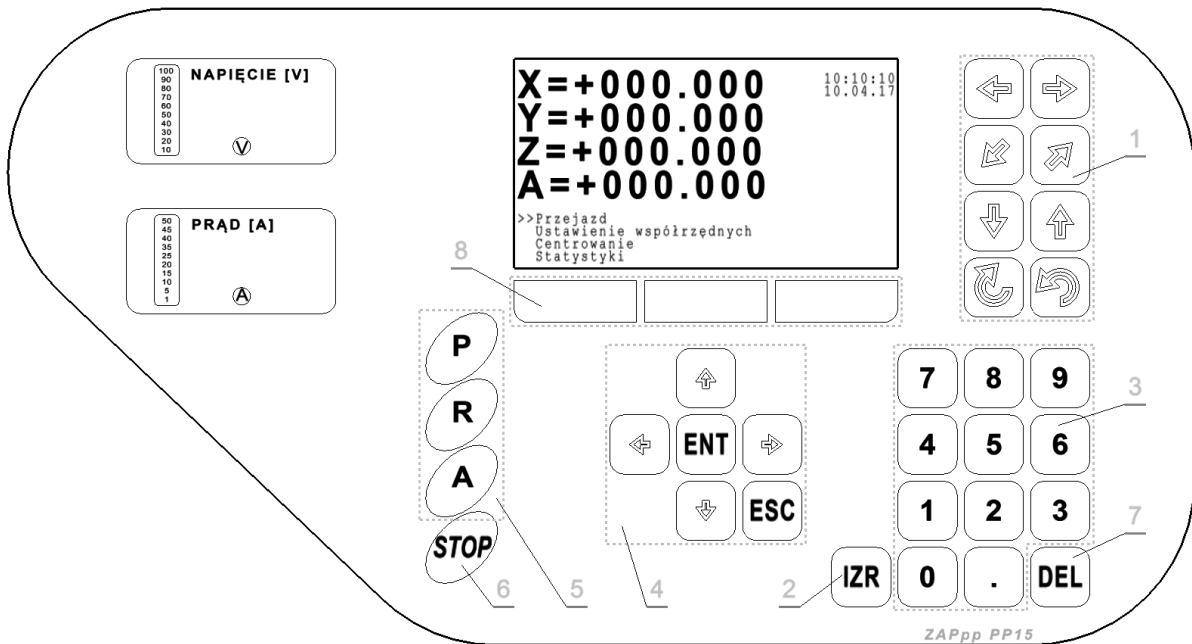

Fig. 1
Intended use: This function is responsible for travelling the working bit of the machine in a specific direction, and according to a specific turning movement, by pressing and holding one of the keys included in the directional keypad (see Fig. 1). This function will not be available, once the user has entered a window dedicated to a selected operation (e.g. travel by a specific value).
- 1) Select a specific direction and turn during travel, by pressing an appropriate key included in the directional keypad (see Fig. 1).
- 4) Declaration of movement for another axis – go back to item 1.
- 3) Select a specific direction and turn during travel, by pressing and releasing an appropriate key included in the directional keypad (see Fig. 1).
- 1) Select a specific character and the axis for which we intend to declare target coordinates, by pressing an appropriate key included in the directional keypad (see Fig. 1).